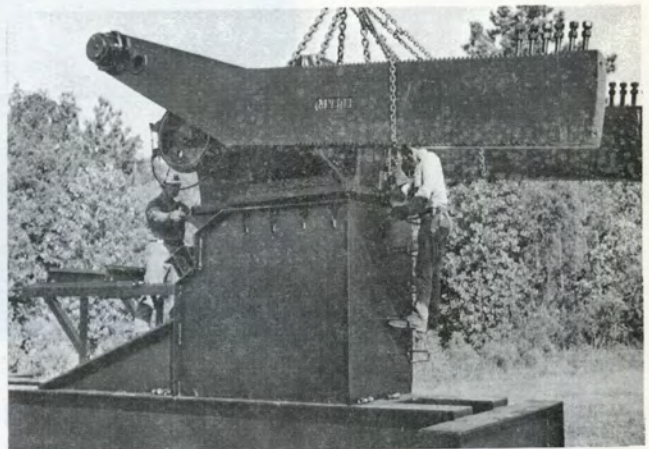

Figure 6
2. Figure 6 - Install gear reducer on sub-base